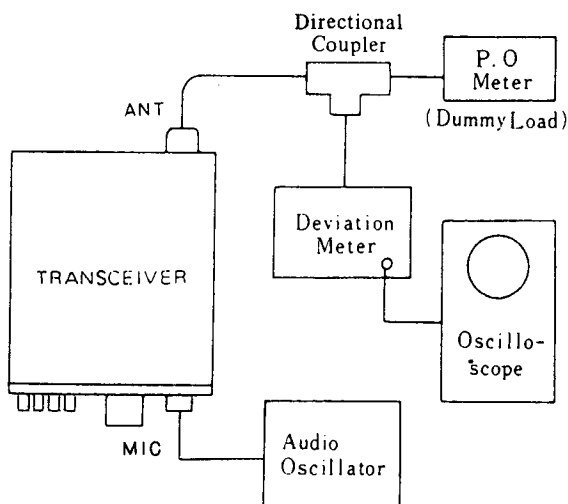

Figure 3
- a) Refer to Fig. 3, and set up the transceiver and test equipment as shown.